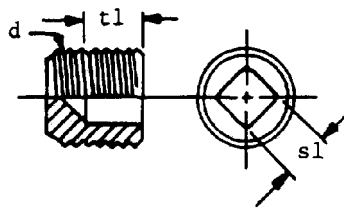

FIGURE 1—TYPE A SQUARE COUNTERSUNK HEADLESS PLUGS
**3.1** Tables 2 and 3 and Figures 1 to 4 list the type and principal dimensions of the recommended plugs which are suggested to ease maintenance. Common tools can be used, a minimum number of tools are needed and the plugs are easily distinguished. All plugs and tools herein are nominal inch sizes.